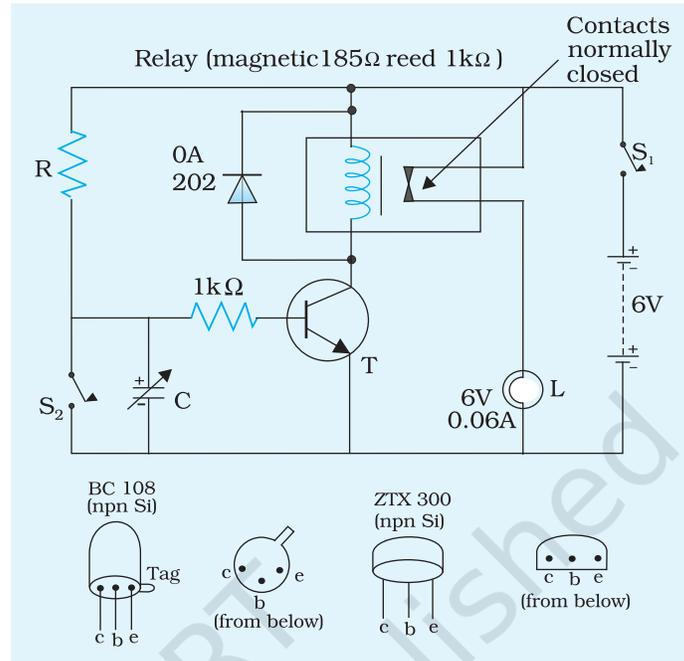

Fig. P 3.1 Circuit of a time switch
1. Arrange the components and make the circuit as shown in Fig. P 3.1.